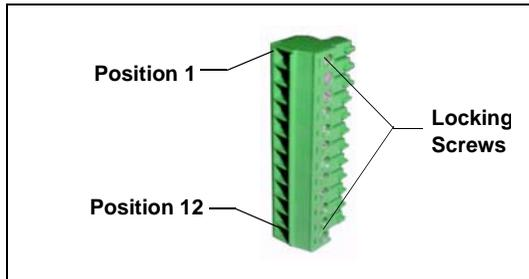

Figure D-2. 12-Position Connector Plug
1. Locate the twisted pair of wires (P/N 043598) and the 12-position connector plug (P/N 923687) (see Figure D-2) in the ICS-1500 Ship Kit (P/N 057905).